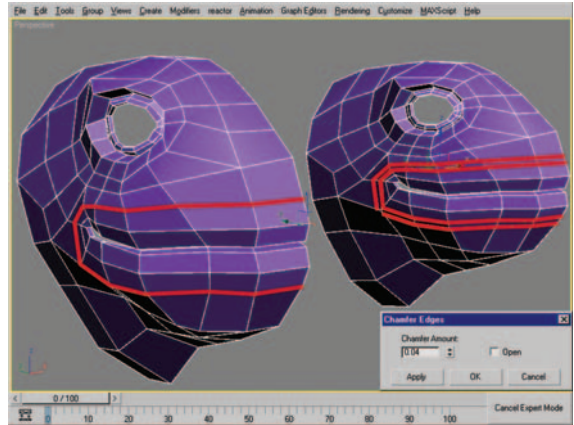

Figure 9.33 Edge selection and result after chamfering the selection.
34. Select the 12 edges shown in Figure 9.33 (left) and use Chamfer settings to create another row that follows the same path (Figure 9.33, right).